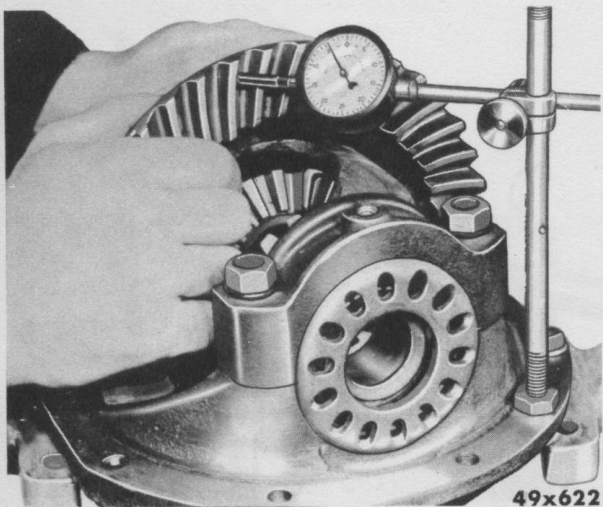

Fig. 19—Checking for Point of Least Backlash
- (f) Turn ring gear a few times by hand to seat bearing rollers. With a dial gauge, as shown in Figure 19, find the point of least backlash on ring gear at 90 degree intervals.